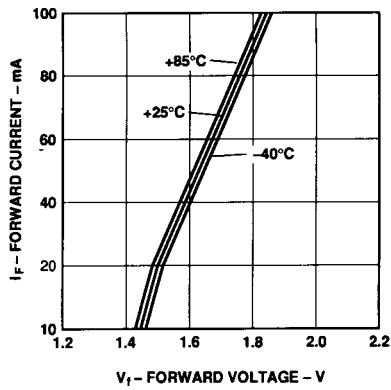

Figure 9. Forward Voltage and Current Characteristics.
*Example for  $I_{F\text{ ON}} = 100 \text{ mA}$ :  $V_F$  can be obtained from Figure 9 (= 1.84 V).*